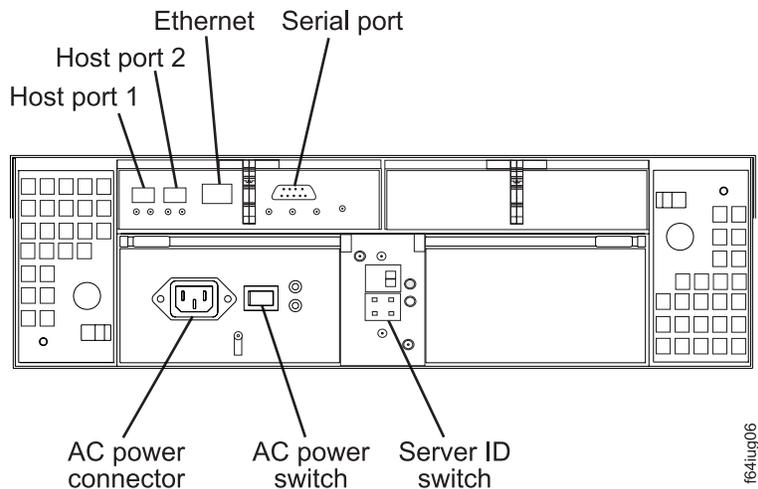

Figure 67. Location of host cables (Model 6LU/6LX)
2. Connect the host-system fibre channel cables between the RAID controller host ports and the HBA ports or fibre channel switch ports. Figure 67 on page 82 shows the location on the RAID controller where the host-system fibre channel cables connect.